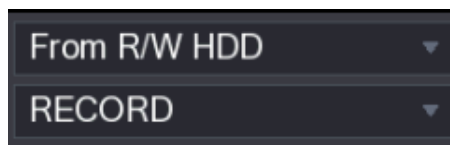

Figure 5-105
- **From R/W HDD:** Recorded videos or snapshots playback from HDD of the Device. See Figure 5-105.